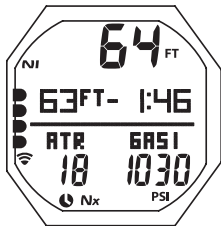

Fig. 80 - DEEP STOP MAIN
**DEEP STOP MAIN**, information includes (Fig. 80) -